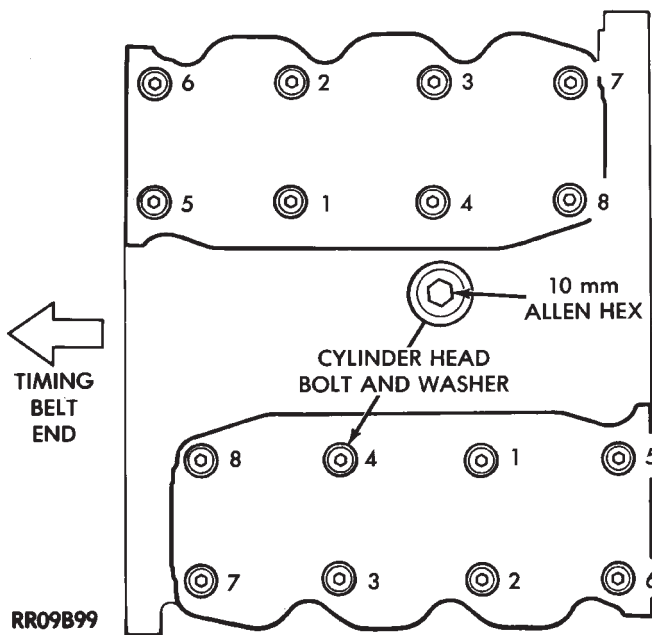

Fig. 34 Cylinder Head Bolt Tightening Sequence
- (1) Clean surfaces of head and block, install head gasket over locating dowels.
- (2) Install head on locating dowels.
- (3) Install 10mm allen hex head bolts with washers.
- (4) Tighten bolts in the order shown in (Fig. 34). When tightening the cylinder head bolts, tighten gradually, working in two or three steps and finally tighten to specified torque of 108 N·m (80 ft. lbs.).